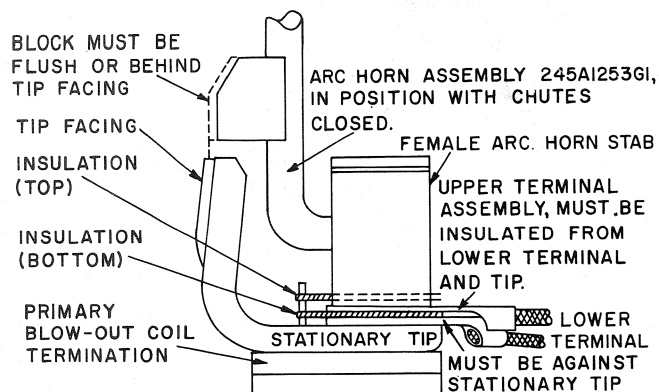

Fig. 46
2. Blow-out coil connections are the most important assembly item to check on the 700-ampere contactors. The terminals and insulation must be located as in Fig. 46. The lower terminal must be against the stationary tip. The upper terminal assembly must be insulated from the lower terminal, tip, and primary blow-out coil by insulation and
- (g) Copper block on arc horn must be flush or behind tip facing. (See Fig. 46.)